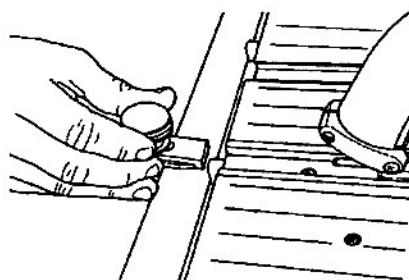

Fig. D-22
1. Loosen the knob and place the T-nut in the miter slot behind the miter gauge, as seen in Fig. D-22.